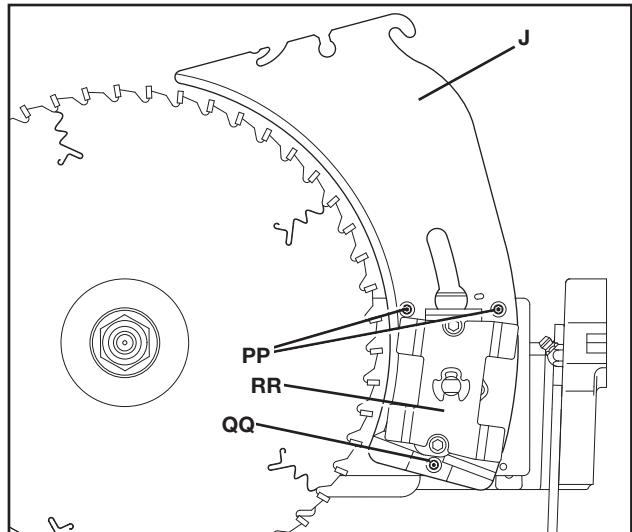
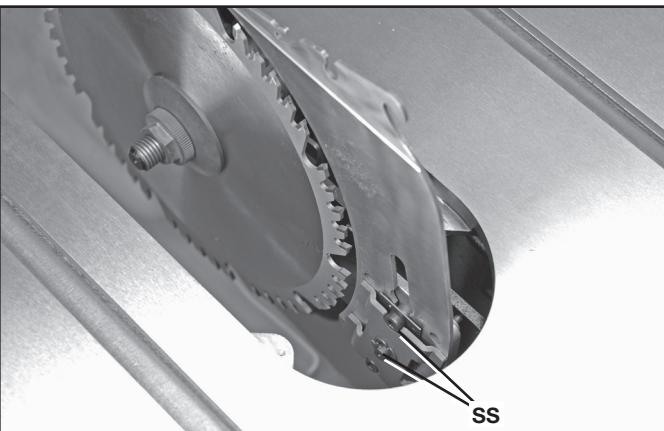

FIG. 33
FIG. 35
3. Raise the riving knife (J) Fig. 33 to the through-cutting or highest position (Fig. 27).
4. Locate the three small set screws (PP) and (QQ) adjacent to the riving knife locking plate (RR). These screws will be used to adjust the riving knife position.
5. Lay a straight edge on the table against blade body and make sure it extends out along the riving knife, as shown in Fig. 32. The riving knife should just touch the straight edge. If adjustment needed, loosen the two socket head cap screws (SS) Fig. 35.
6. Adjust the set screws (PP) and (QQ) Fig. 33 to move the riving knife in line with the blade according to the position noted in STEP 5. Lay the straight edge on the opposite side of the blade and repeat these adjustments as needed.
7. Lightly tighten the two socket head cap screws (SS) Fig. 35.
11. Fully tighten the two socket head cap screws (SS) Fig. 35.